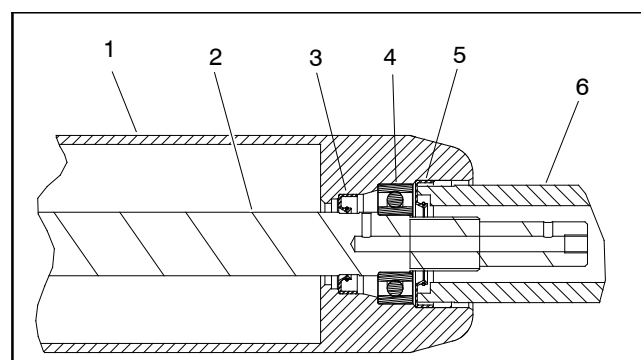

Figure 17
D. Carefully install first outer seal into roller tube making sure that seal lip (and garter spring) faces end of tube. Use bearing/outer seal tool (see Special Tools) and soft face hammer to lightly seat seal (Fig. 17). Make sure that shaft and bearings still freely rotate after seal installation.